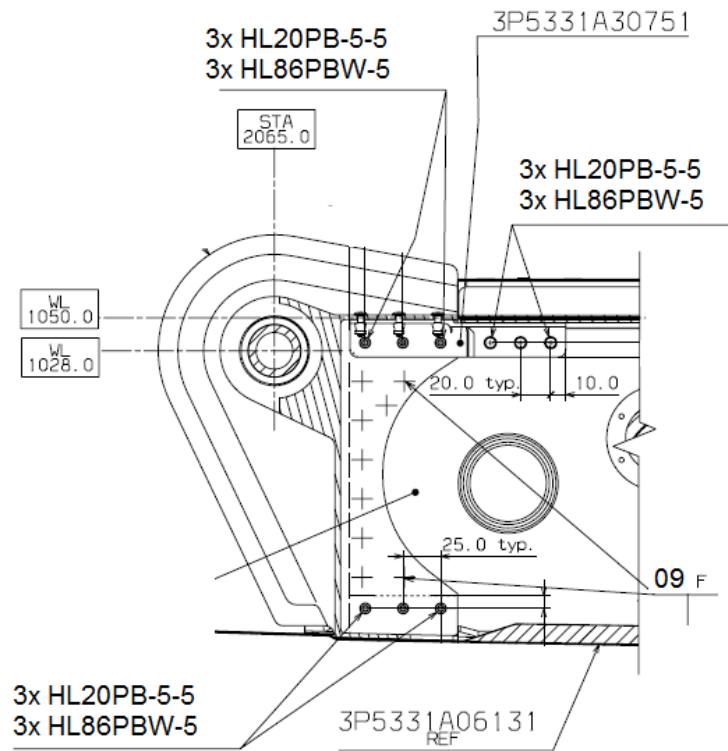

Figure 6 - Bracket Assy to Longheron
7. Remove Connector p/n 3P5331A30751 from LH Bracket Assy as per figure 6.
15. Install Connector p/n 3P5331A30751 as per figure 6.